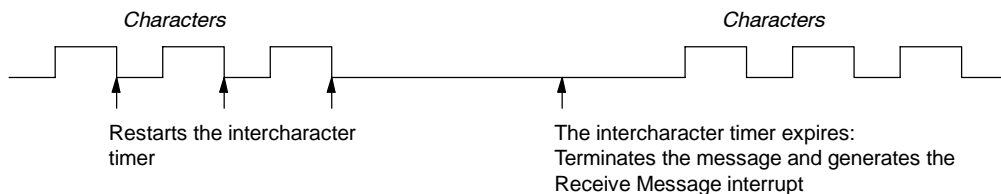

Figure 6-12 Using the Intercharacter Timer to Terminate the Receive Instruction
2. **Intercharacter timer:** The intercharacter time is the time measured from the end of one character (the stop bit) to the end of the next character (the stop bit). If the time between characters (including the second character) exceeds the number of milliseconds specified in SMW92 or SMW192, the receive message function is terminated. The intercharacter timer is restarted on each character received. See Figure 6-12.